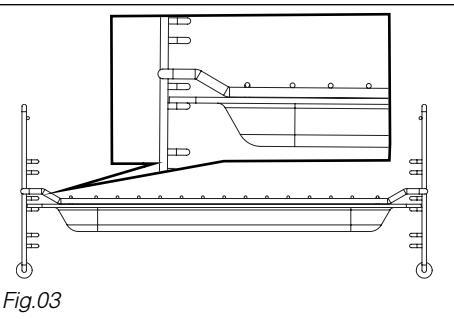

Fig.03
• *The grill + the glass drip tray:* for roasting and to recover cooking juices, place the grill on the drip tray (Fig.03).